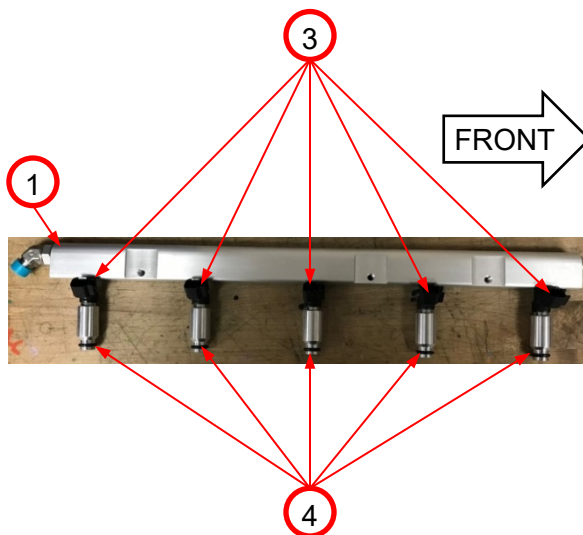

Figure 2:
7. Remove fuel injector(s) to be replaced from fuel injector spacer or fuel rail. *Figure 2*